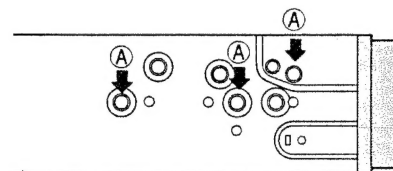
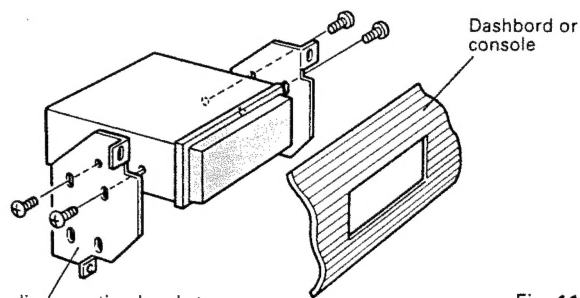

Fig. 10
Fig. 11
For the screw holes marked (A) in Fig. 10, use 5 × 8 mm screws, obtainable from your local hardware store. (Fig. 11)